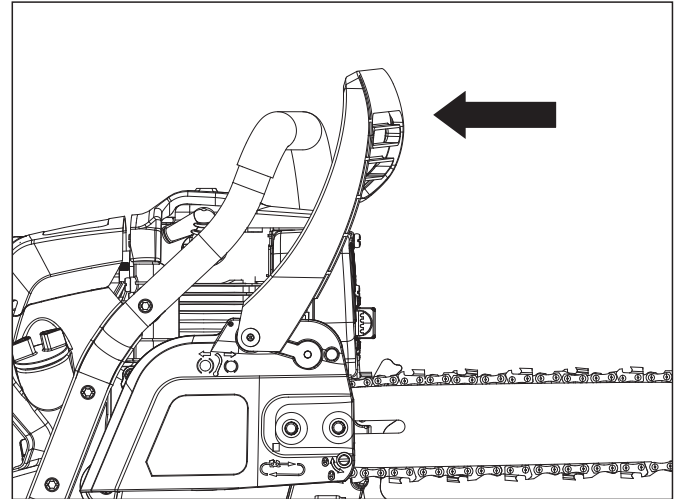

Fig. 6
1. Carefully pull the chain brake back toward the front handle (Fig.6).